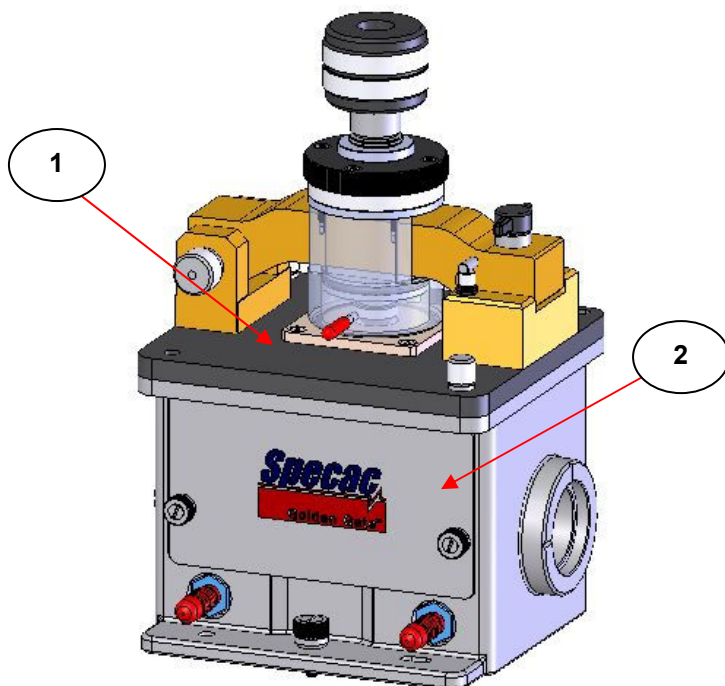

Fig 2. Envirochamber Golden Gate™ ATR Accessory
If the Envirochamber Golden Gate™ ATR Accessory under P/N GS10652 has been supplied then the Envirochamber Golden Gate™ top plate (1) is already fixed to the Golden Gate™ optical unit (2) (see Fig 2.) and the whole is mounted on an appropriate Benchmark™ type baseplate within the sample compartment of a Spectrometer. (See installation procedure of the Golden Gate™ optical unit for your Spectrometer from the Golden Gate instruction manual (P/N GS10500).